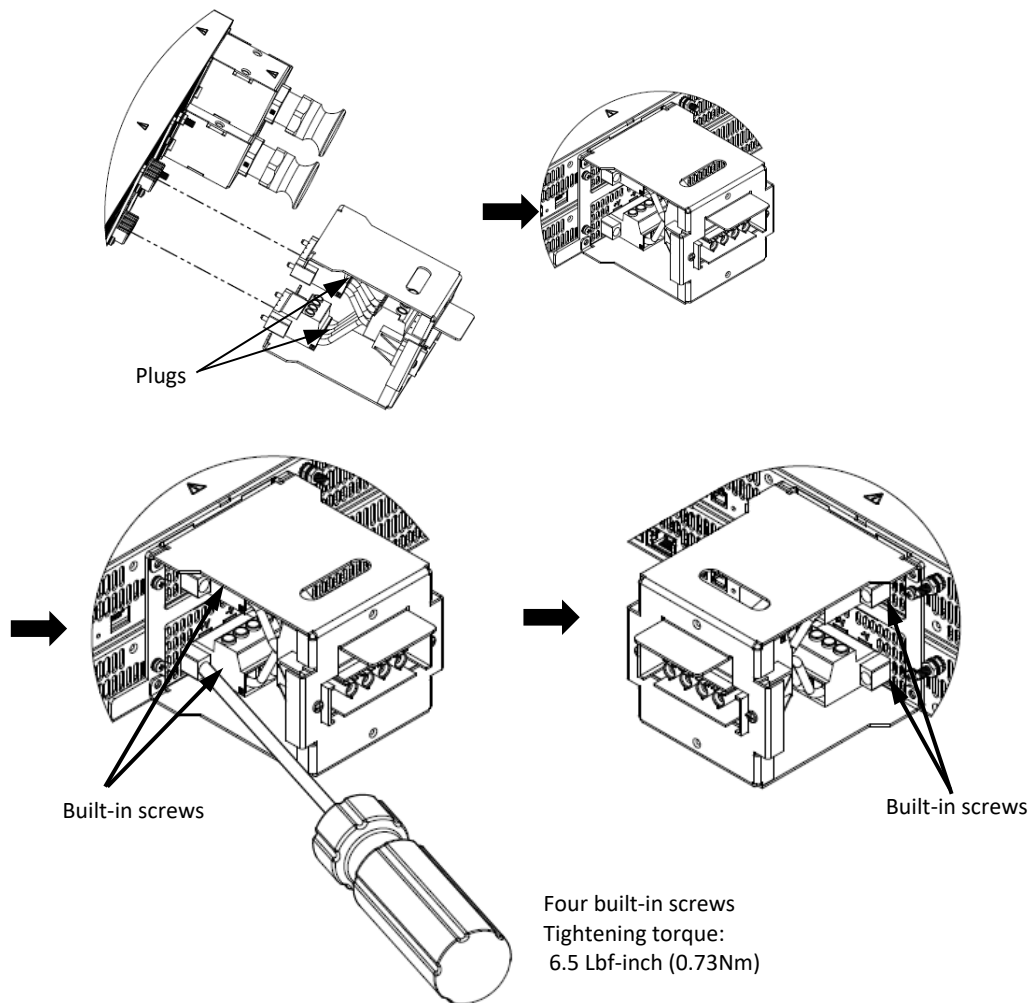

Figure 26: Fixing bracket installation
- Insert two plugs into their compatible output receptacle and fasten them using their four built-in screws and a slotted screwdriver as illustrated in Figure 26.